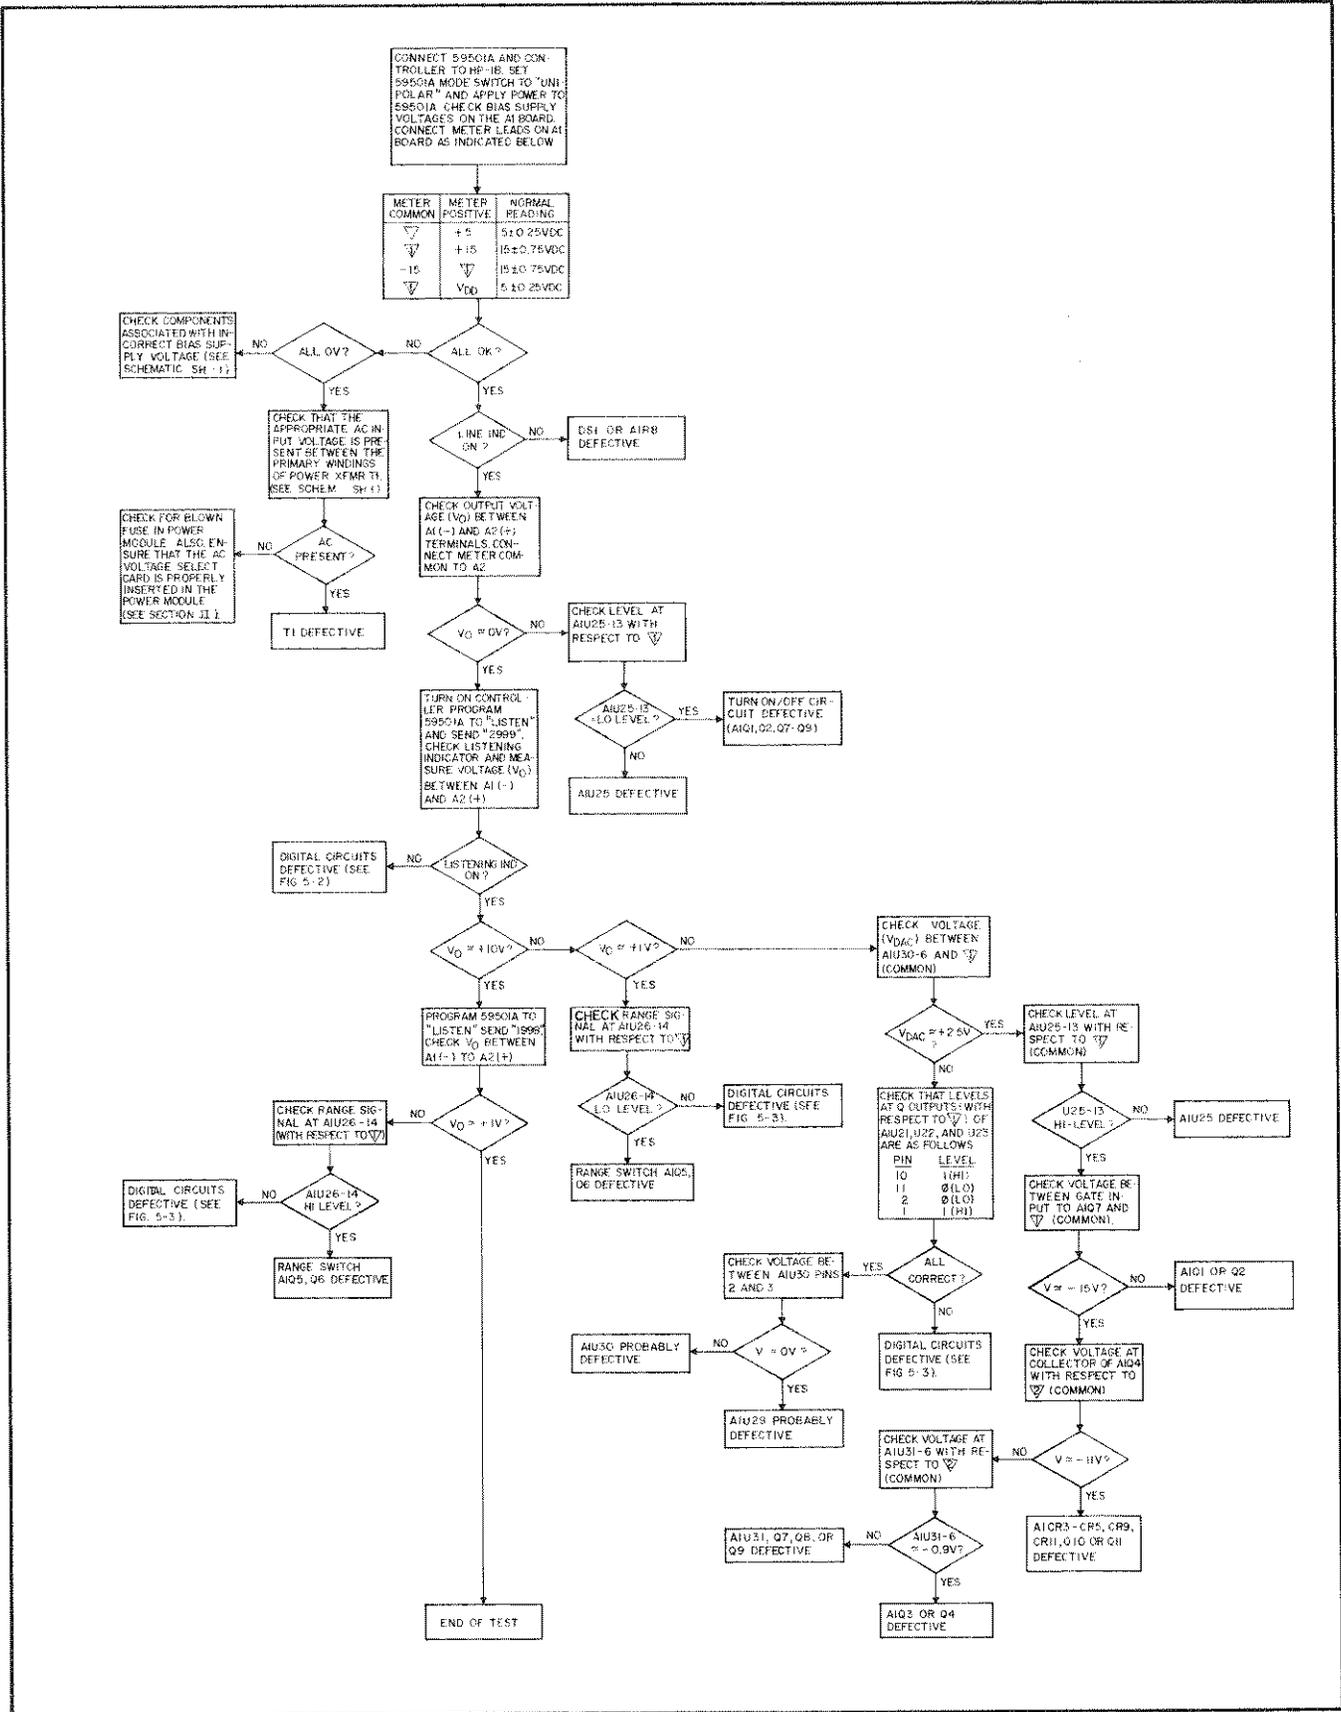
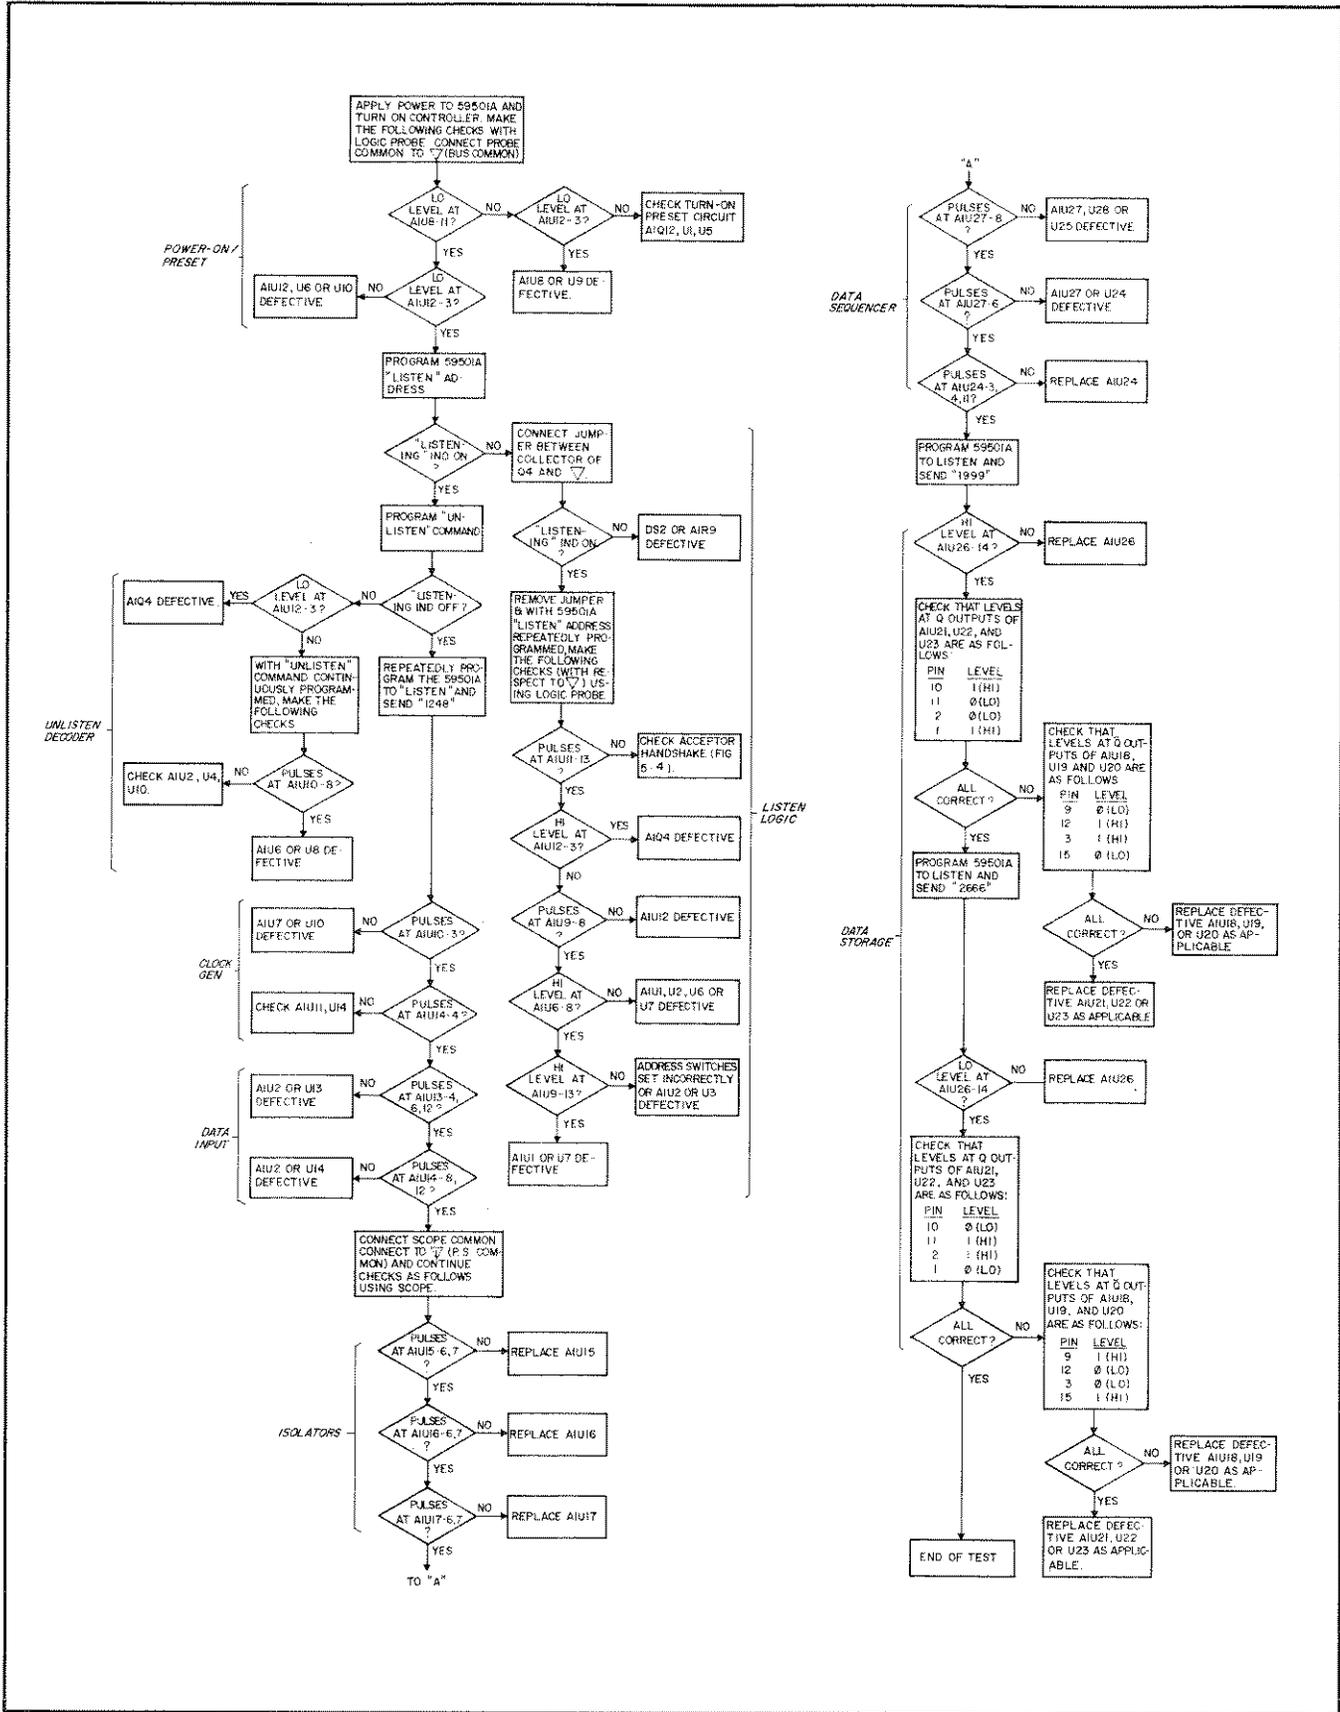

Figure 5-2. Overall Troubleshooting Procedures, Flow Chart
Figure 5-3. Digital Circuits Troubleshooting, Flow Chart
5-10 The troubleshooting procedures (Figures 5-2 through 5-4) assume that the controller is operating properly and that a malfunction exists in the 59501A. Before attempting to troubleshoot the 59501A, ensure that the fault was not caused by a programming error. Also, it is recommended that the reader review the circuit descriptions provided in Section IV. A good understanding of circuit operation will aid in troubleshooting. In order to troubleshoot the 59501A, the bottom cover must be removed.
**5-11 Overall Troubleshooting.** The overall troubleshooting procedures given in Figure 5-2 isolate a malfunction to the analog or digital sections of the 59501A. Analog circuit malfunctions are isolated to the component level. Additional troubleshooting flow charts (Figures 5-3 and 5-4) are provided for digital circuit malfunctions.
**5-12** The procedures given in Figure 5-2 first check the bias supply voltages to ensure that these voltages are correct before continuing with the troubleshooting. If the supply voltages are correct, the procedures continue to check if a malfunction is present in the analog or digital portions of the 59501A. If a malfunction is not detected, review the programming and operating instructions provided in Section III to check if the fault was caused by a programming or operating error.
**5-13 Digital Circuits Troubleshooting.** The digital circuits troubleshooting procedures given in Figure 5-3 isolate a malfunction to components within the circuits listed below or to the acceptor handshake circuit. A separate flow chart (Figure 5-4) is provided to troubleshoot the acceptor handshake circuit. Figure 5-3 checks the digital circuits in the following sequence: